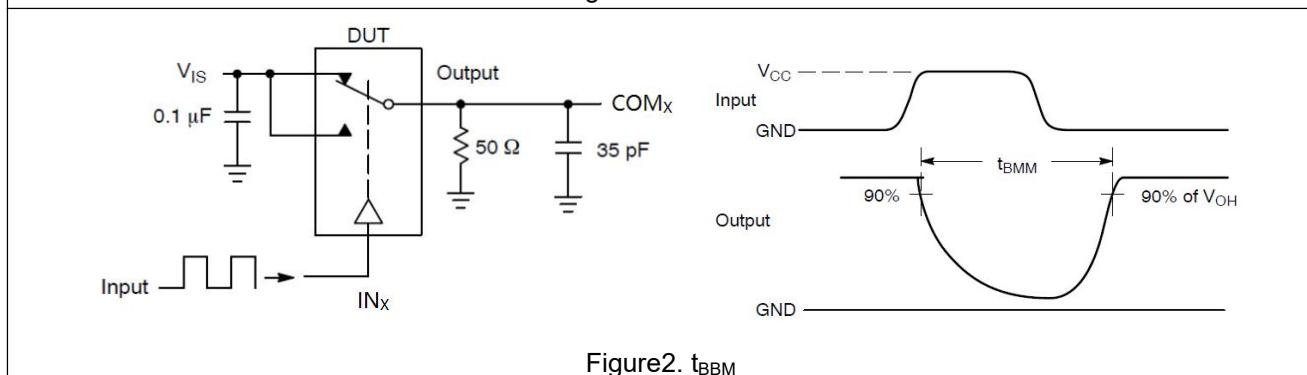

Figure2. tBMM
| $t_{BBM}$ | Break-Before-MakeTime (2) (Figure 2)                             | $C_L=35pF$ , $R_L=50\Omega$$V_{IS}=0.5V$ ,$V_{CC}=2.5\sim3.3V$  |                  | 15   |     | 7                       |     | ns   |